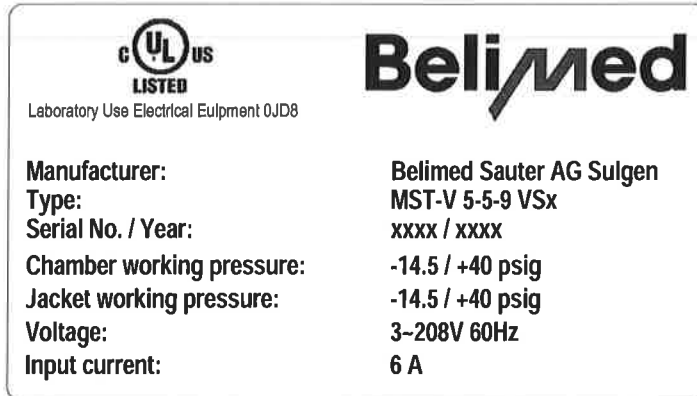

Figure 3-2: Labeling Electrical Ratings
- Electrical ratings (Figure 3-2) are given on the label located in the upper part inside the servicing door on the operating end.
Remark to Figure 3-2: